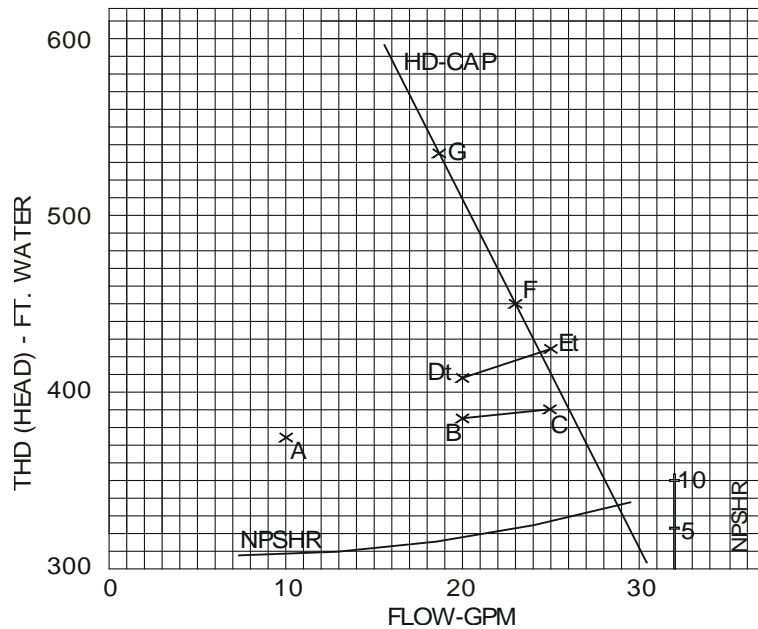

Figure 14. Turbine Pump Selection
9.1.7 For an alternate example, a regenerative turbine is assumed to be the preferred choice of a feedwater pump. Using a sheet of graph paper plot points A, B & C as described in paragraph 9.1.6 and as shown on Figure 14.